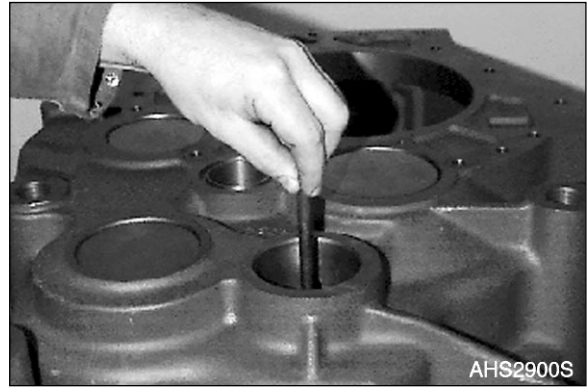

Figure 342
3. Install adjusting screw (Figure 342).